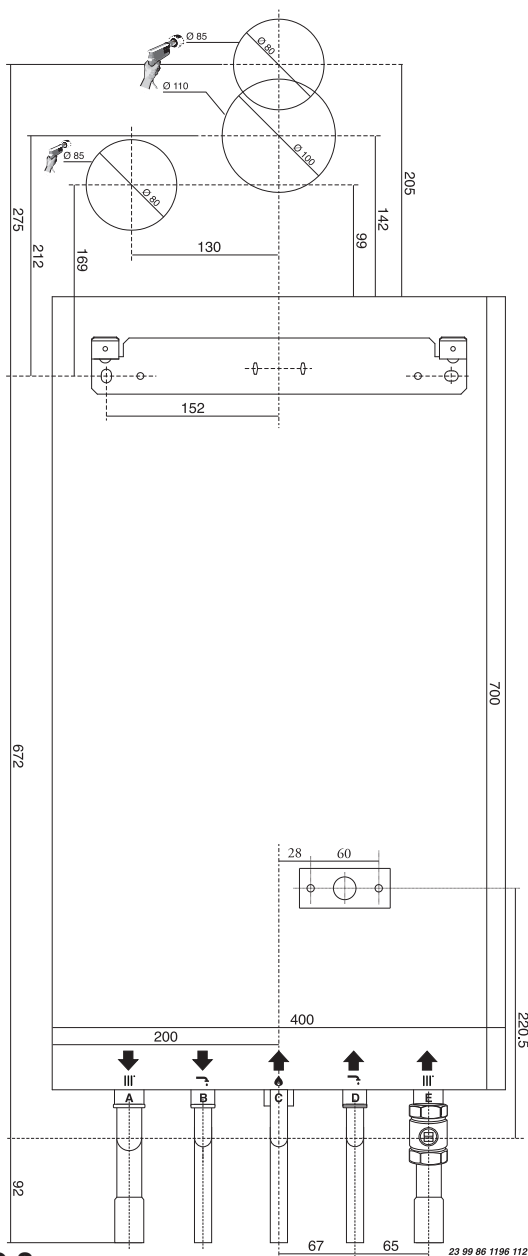

FIG. 2.3
2.5.2. Position the appliance on the hanging bracket and connect the connection kit to the boiler connections. (see also Sections 2.7 Gas Connections, 2.8 Water Connections & FIG. 2.3).